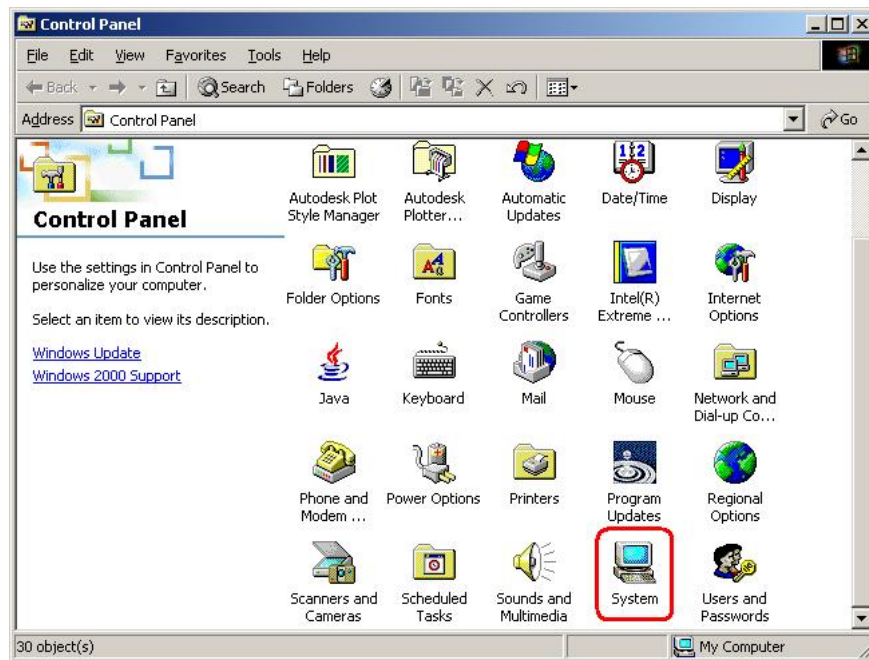

Figure 7-13: Double Click the System Icon
Step 2: Double click the **System** icon (Figure 7-13).